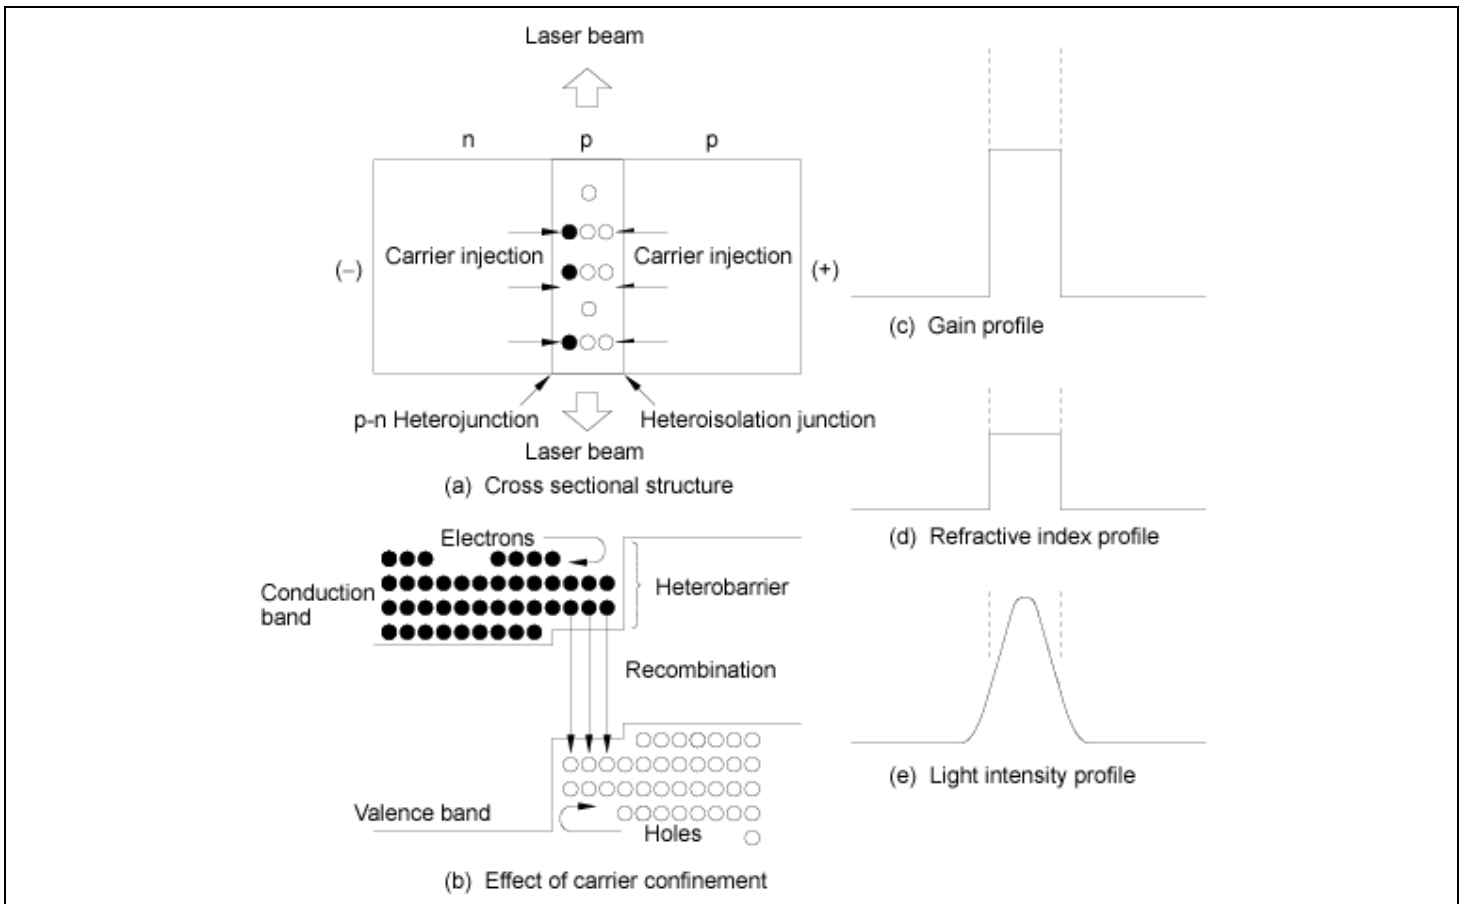
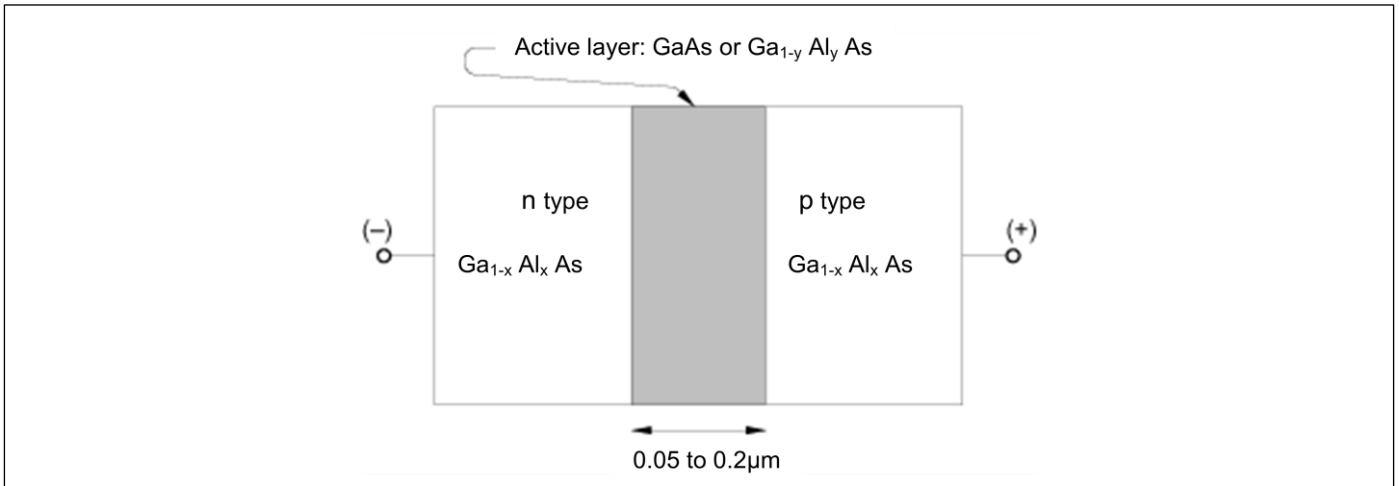

Figure 1 Operation Principles of Double-hetero junction LD
Figure 2 GaAlAs DH Structure LD
The p-type active layer, in which stimulated emission enforces optical amplification (figure 1 (a)), is processed first. The p-n junction is made here for injecting minority carriers (the p-n hetero junction). With forward current applied to the junction, electrons in n-type region are injected into p-type region. With a p-type semiconductor of wide band gap on the other side of the p-n junction (hetero isolation junction), the injected carriers are mostly confined within the p-type active layer. This carrier confinement makes population inversion occur easily, increasing the light emission intensity.
The active layer of the GaAlAs LD is made of GaAs or $Ga_{1-y}Al_yAs$ (figure 2). The thickness of the layer is approximately 0.05 to 0.2 μm . P-type($Ga_{1-x}Al_xAs$) and n-type($Ga_{1-x}Al_xAs$) ($x > y$) sandwich the active layer (x and y here are the mixture ratio of Aluminum). When x is 0.3, the band gap of the sandwich layers is 1.8 eV, and there is a balance of 0.4 eV against 1.4 eV of GaAs active layer. When forward bias is applied here, the hetero barrier confines carriers within the 0.05 to 0.2 μm active layer, carrier population is inverted and the gain increases. The refractive index of the GaAs is higher by some percent than those of $Ga_{1-x}Al_xAs$, which confines the generated light within the GaAs active layer. The light penetrating into the Al_xAs layer is not absorbed because of its wide band gap. So laser oscillates effectively there (figure 1). A thinner active layer (called multiple quantum well structure) can make do with less threshold current density to achieve laser oscillation. At present, a threshold current density of as low as 1 to 2 kA/cm^2 can be achieved, realizing a stable continuous oscillation (CW) at room temperature.